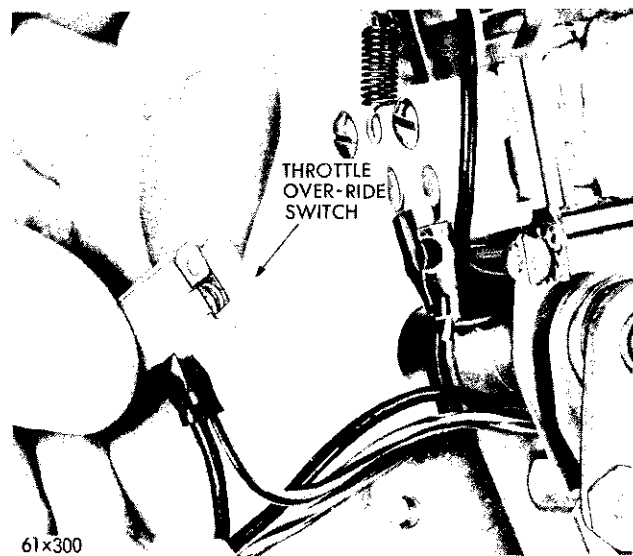

Fig. 29—Installing the Over-Ride Switch
(8) Install the throttle over-ride switch (Fig. 29). Install the two pintle screws and washers to attach the pintle assembly in the housing.
(9) Install the gauge stud and washer.
(10) Install the armature lever on the locking arm.
(11) Install the armature lever spring.
(12) Install the terminal block on the housing with the numbered connector blades toward the outside of the housing. Attach the terminal block with